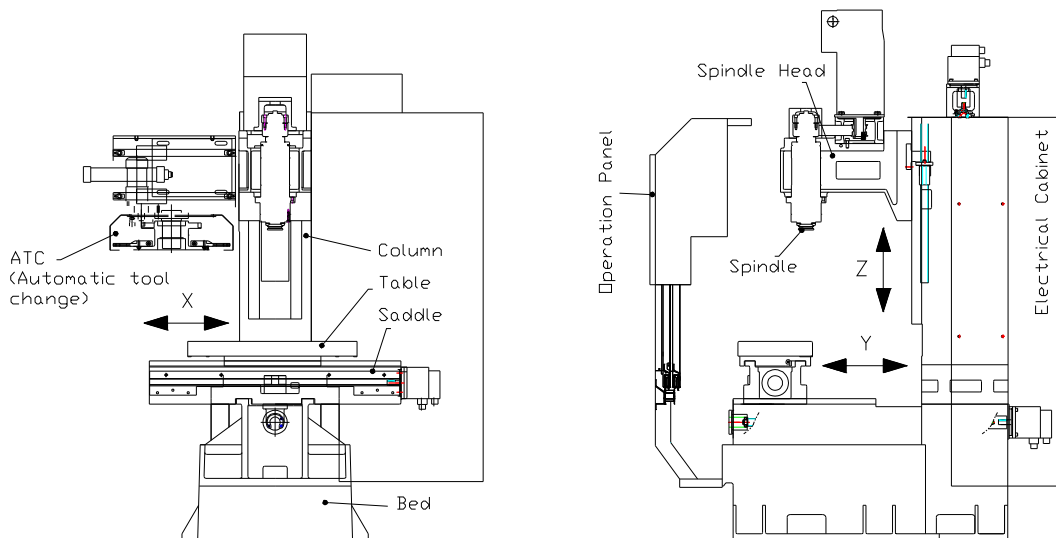

FIG. 2.1.1 PRINCIPAL COMPONENT NAME
- C. THE APPEARANCE AND PRINCIPAL DIMENSIONS OF THE MACHINE AND THE NAME OF EACH PRINCIPAL COMPONENT ARE AS SHOWN IN FIG. 2.1.1, 2.2.2